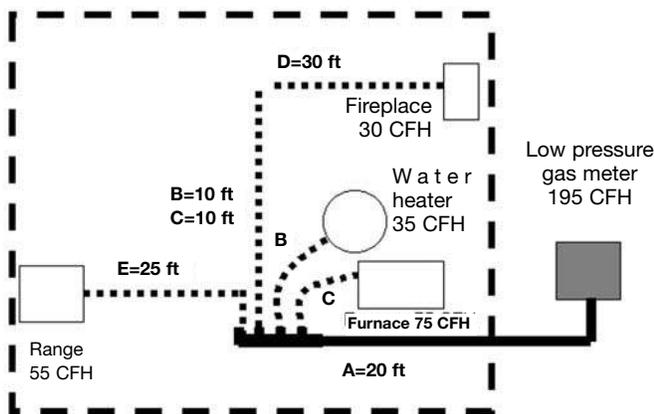

Figure 3-7
1. The system presented in figure 3-7 is typical of a residential installation with four appliances. The supply pressure is 7-8 inches water column. The system will be sized with 0.5 inches w. c. drop for the steel pipe trunk line and 1 inch w.c. drop for the **TracPipe** branches. (Note: confirm that pressure drops larger than 0.5 inches water column are permitted in your jurisdiction)